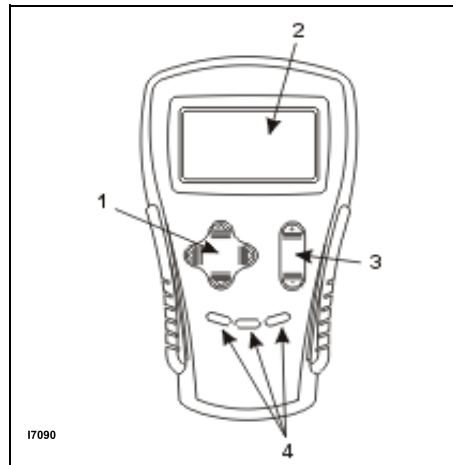

Figure 4-2. Hand Held Programmer
2. Turn the lift truck key switch to the ON position. The programmer should "power up" with an initial display (2, Figure 4-2), and the controller's Status LED should begin steadily blinking a single flash. If neither happens, check for continuity in the key switch circuit and controller ground.
3. Put the controller into the diagnostic mode by pressing the "Menu Navigation Key" (1, Figure 4-2). Using the Navigation key, select the Faults menu. Display the Faults menu by pressing the Right side of the Navigation key. Press the Right side of the Navigation key again to display the list of System Faults. The display should indicate "No Known Faults."
5. Put the controller into the test mode by using the Navigation key (1) to select the "Monitor" menu. Select the Monitor mode by pressing the "Right" arrow on the Navigation key. Press the Navigation key "Down" arrow to scroll down to observe the status of the forward, reverse, brake, emergency reverse, and mode switches. Cycle each switch in turn, observing the programmer. Each input should show the correct state on the programmer.
To see the present status of the unit, use the Menu Navigation Key (1, Figure 4-2) to select: